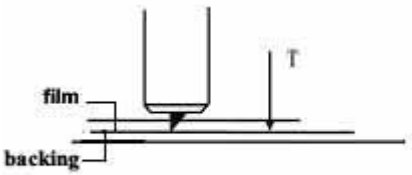

Figure 2-5
- ④ Extend the tip of blade by the stretch required for the desired cutting media ( $T < 5\text{mils}$ ) as (Figure 2-5).